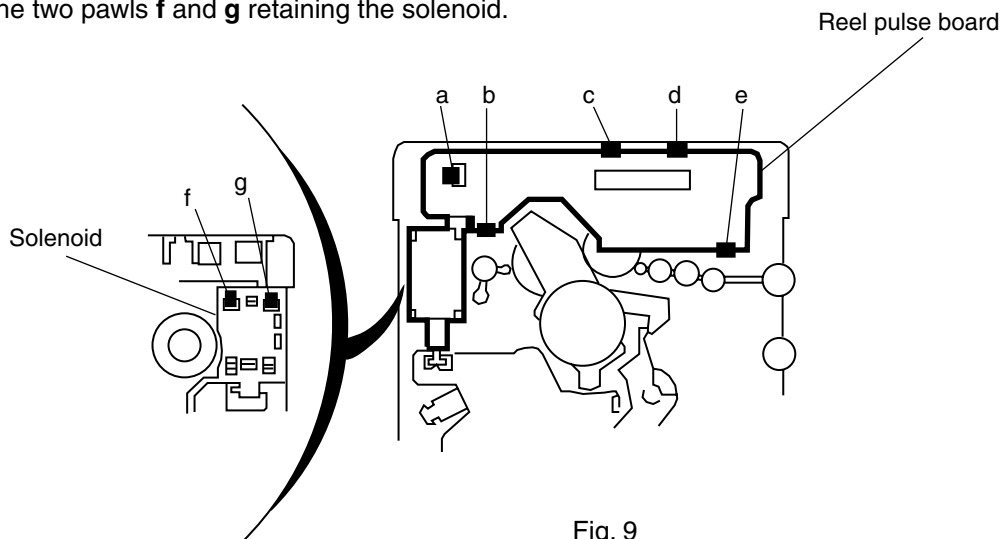

Fig. 9
■ **Removing the reel pulse P.C. board and solenoid (See Fig. 9)**